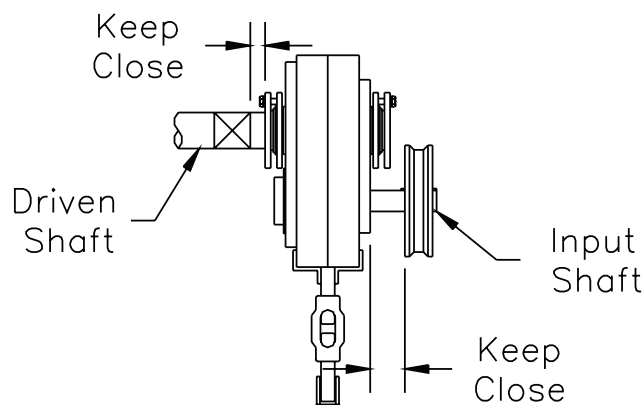

Figure 2 - Reducer and Sheave Installation
- Install sheave on input shaft as close to reducer as practical (see Figure 2).